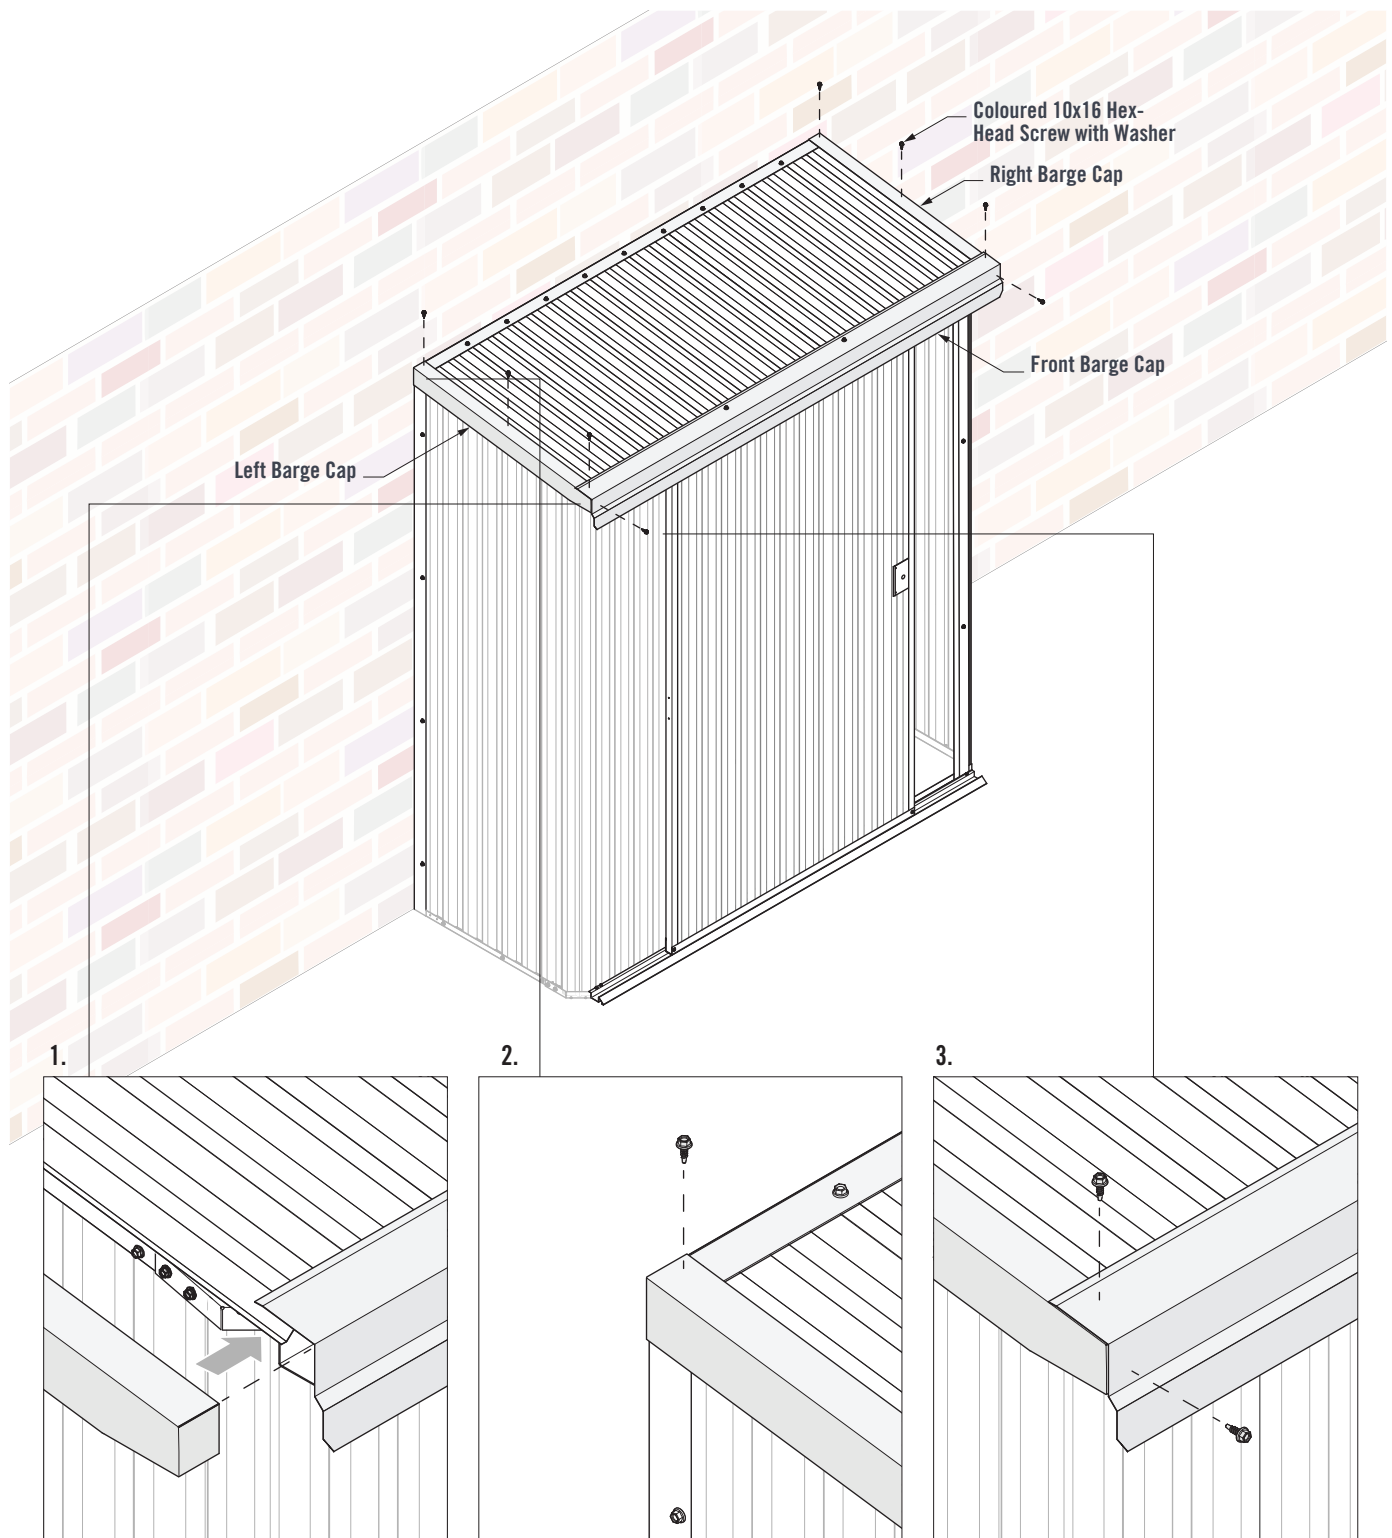

FIGURE 8.4
1. Place the Left Barge Cap over the Roof Sheet at the left of the shed. Ensuring the Left Barge Cap is against the Wall and Roof Mount Channel. Ensure the Left Barge Cap is positioned behind the Front Barge Cap (Figure 8.4).
2. Fasten a Coloured 10x16 Hex-Head Screw with Washer through the Left Barge Cap and into the Roof Mount Channel. Fasten a Coloured 10x16 Hex-Head Screw with Washer through the centre of the Left Barge Cap and into the Roof Sheet (Figure 8.4).
3. Fasten two Coloured 10x16 Hex-Head Screws with Washers through the Front Barge Cap and into the Left Barge Cap and Gutter (Figure 8.4).